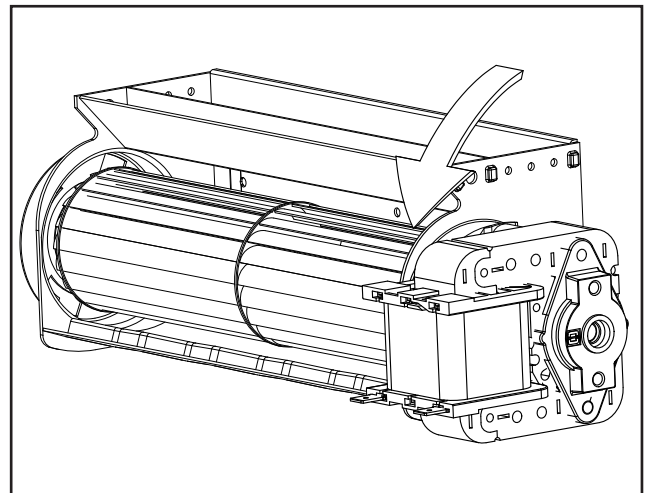

Figure 35: Final Motor Position
- Once positioned correctly, push the motor into the slots and turn it clockwise to lock it into place (Figure 35).